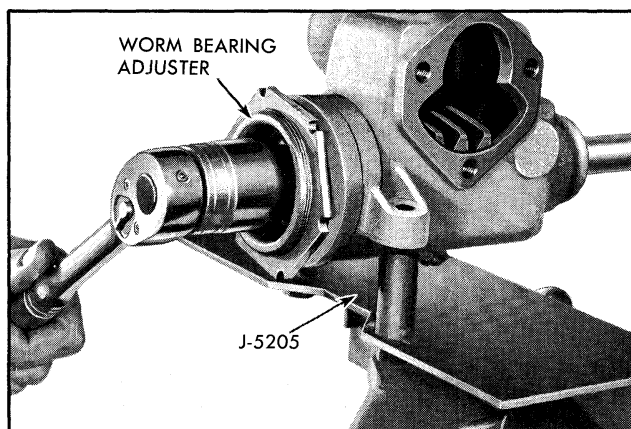

Fig. 9-26 Adjusting Worm Bearing Preload
b. If torque does not meet above specifications loosen worm bearing adjuster lock nut (Fig. 9-26) and turn adjuster to bring torque within 5 to 9 lb. in. limits.